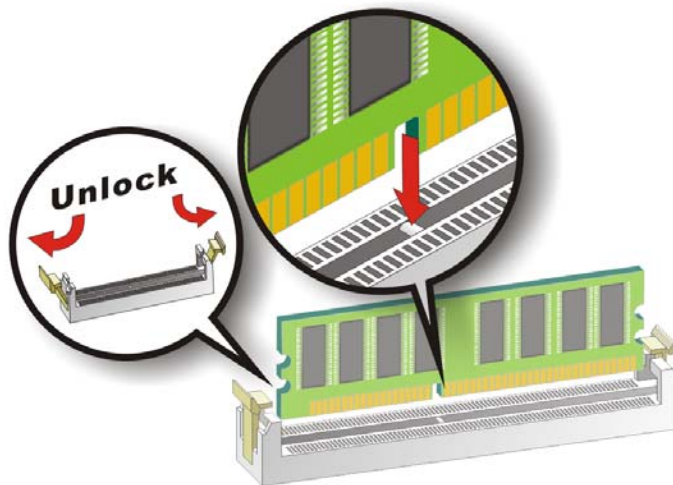

Figure 4-7: Installing the DIMM Module
- Step 1:** Make sure the two handles of the DIMM socket are in the "open" position, leaning outward (Figure 4-7).